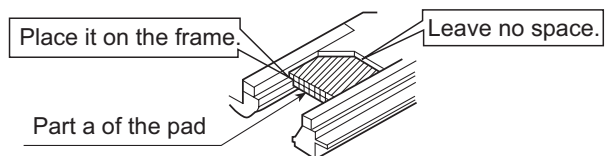
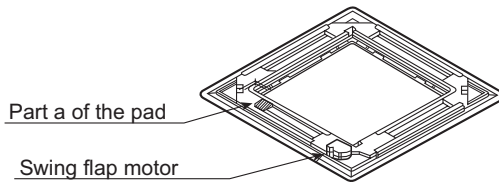

Fig. 6
Fig. 5
- ② Install part a of the pad on the place shown in Fig. 5. Refer to Fig. 6.